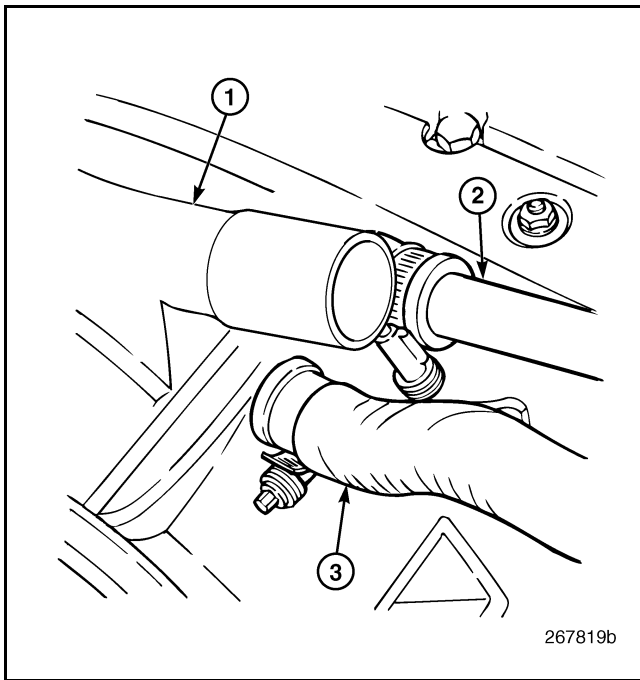

Figure 495 — Coolant Connections
- Loosen the clamps and disconnect the coolant inlet and outlet hose connections at the front side of the EGR cooler (Figure 495).
2. Connect the coolant supply and return hoses at the cooler inlet and outlet tubes. Install the clamps and tighten to specification (Figure 495).